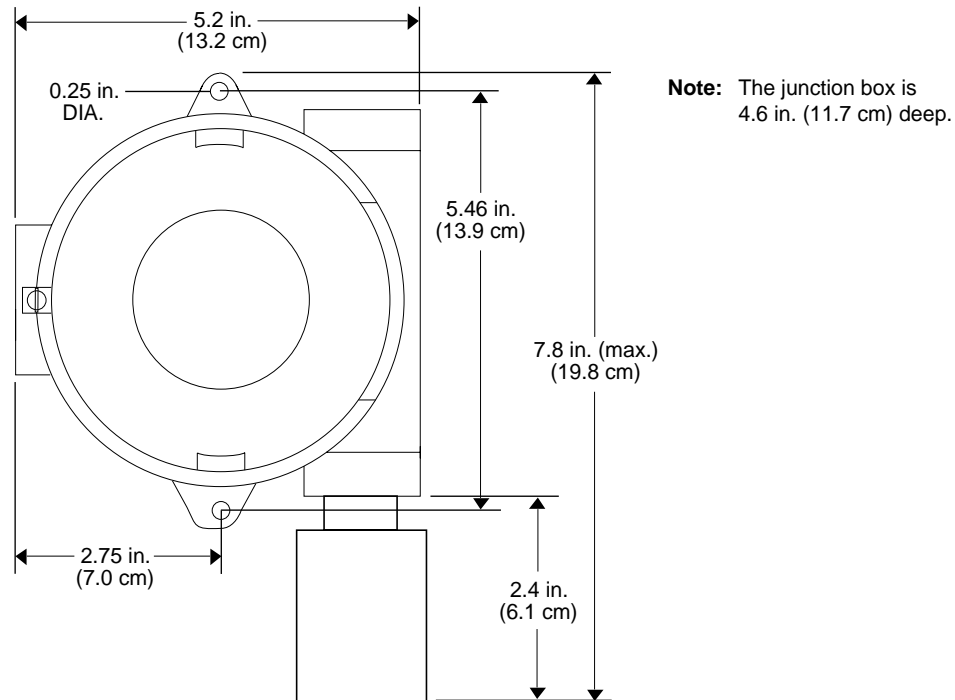

Figure 2: Mounting the Oxygen Transmitter
**CAUTION:** *Mount the oxygen transmitter with the detector facing down (see Figure 2).*
2. At the monitoring site, use #10 screws through the junction box's two mounting holes to secure the junction box to a vertical surface (see Figure 2).